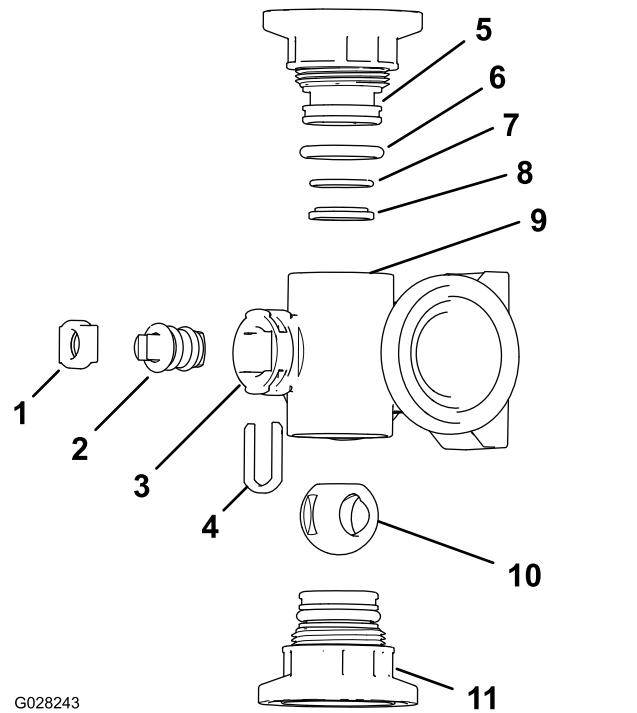
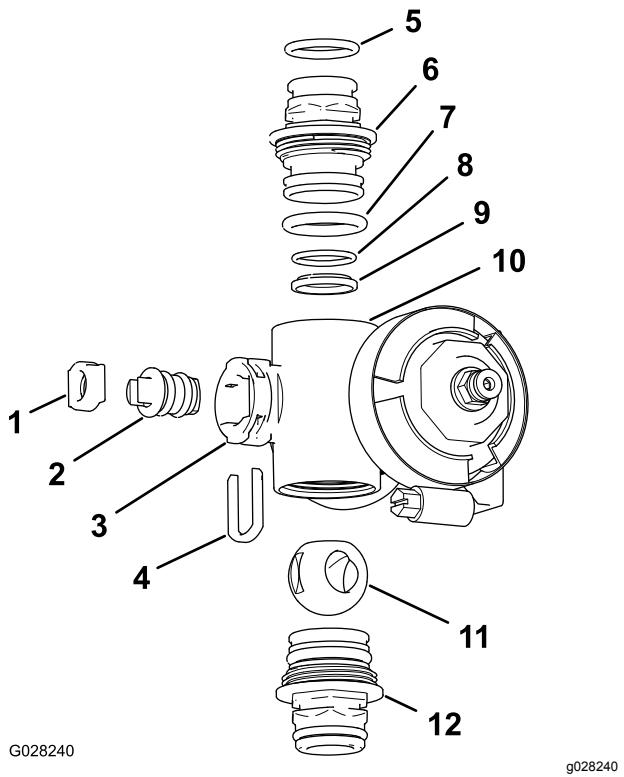

Figure 98
Figure 99
2. Remove the 2 endcap-fitting assemblies from each end of the manifold body (Figure 98 and Figure 99).
4. Remove the stem retainer from the slots in the stem port in the manifold (Figure 98 and Figure 99).
5. Remove the stem retainer and valve stem seat from the manifold (Figure 98 and Figure 99).
6. Reach into the manifold body and remove the valve-stem assembly (Figure 98 and Figure 99).
1. Check the condition of the outlet fitting O-rings (section valve manifold only), endcap O-rings, back seating O-rings, ball seat for damage or wear (Figure 98 and Figure 99).
2. Apply grease to the valve stem and insert it into the valve stem seat (Figure 98 and Figure 99).
3. Install the valve stem and seat into the manifold and secure the stem and seat with the stem retainer (Figure 98 and Figure 99).
4. Ensure that the back seating O-ring and the ball seat are aligned and seated into the endcap fitting (Figure 98 and Figure 99)
5. Install the endcap fitting assembly onto the manifold body until the flange of the endcap fitting touches the manifold body (Figure 98 and Figure 99), then turn the endcap fitting an additional 1/8 to 1/4 turn.